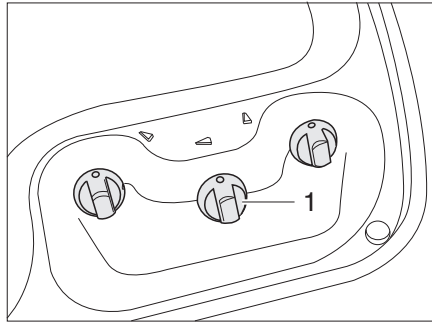
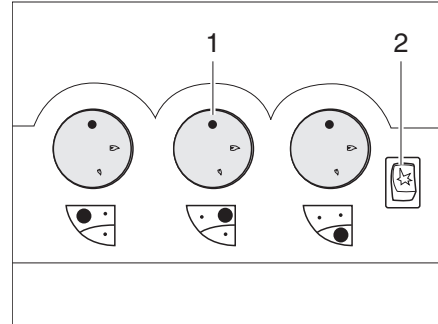

Fig. 312 Operating controls for gas cooker (without piezo ignition button)
Fig. 313 Operating controls for gas cooker (with piezo ignition button)
- Turn the control knob (Fig. 312,1 or Fig. 313,1) on the burner you wish to use to the ignition position (large flame).
- If an ignition button (Fig. 313,2) is present: Create a spark by pushing the ignition button.